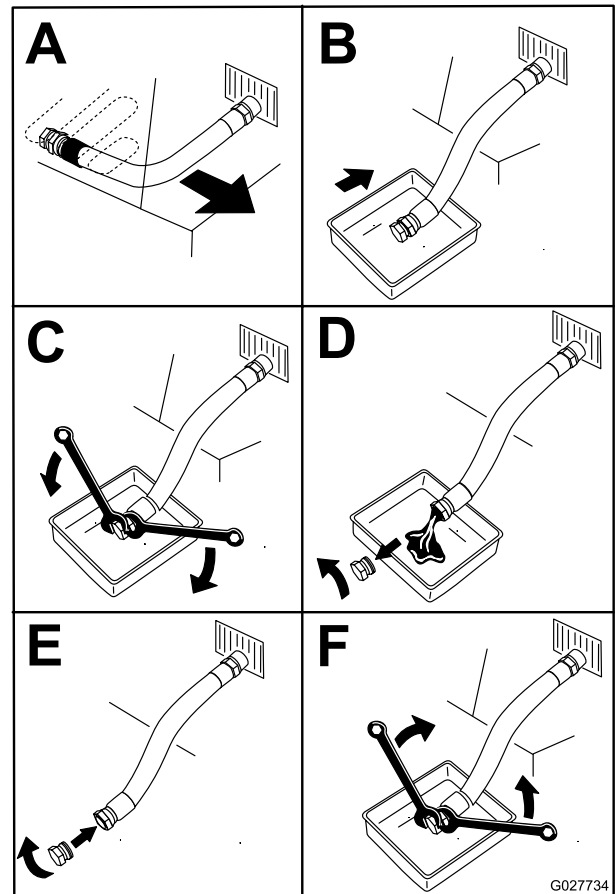

Figure 50
- Shut off the engine, remove the key, and wait for all moving parts to stop before leaving the operating position (Figure 50).